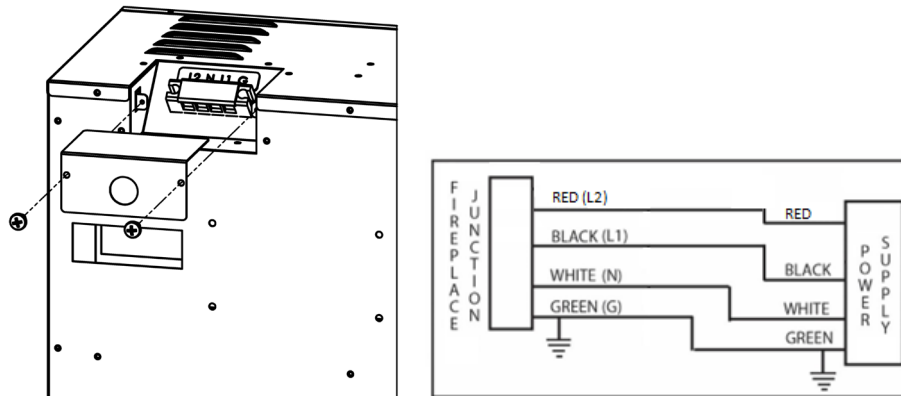

Fig. 6-1
All 4 terminals will be used in the appliance junction box (Fig. 6-1): white (neutral), black (power L1), red, (power L2), and green/bare (ground) that are connected to 220V power source (circuit breaker panel).
- Remove the 2 securing screws from the junction box cover plate, located on the top left-hand, back- side of the appliance (Fig. 6-1).